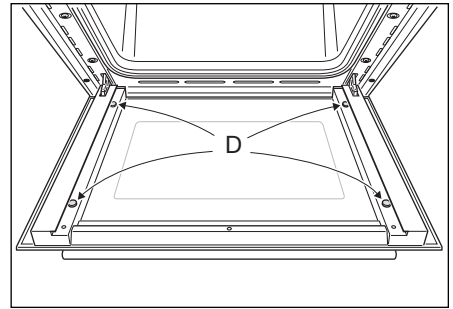

Fig.50a
- Check that the four rubber pads are in place ("D" in Fig. 50a).